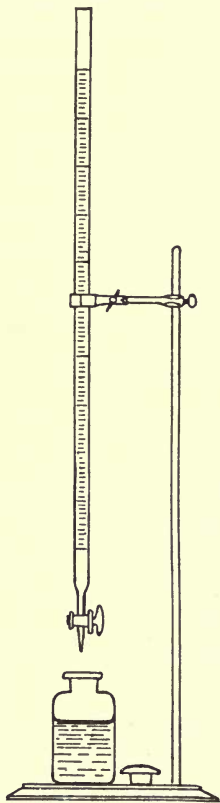

FIG. 9.
37. Obtain a supply (about 50 cc.) of "standard soap solution" from the stock bottle on the reagent shelves. Rinse out a burette three times with small amounts of the soap solution and then fill the burette with it (Fig. 9).